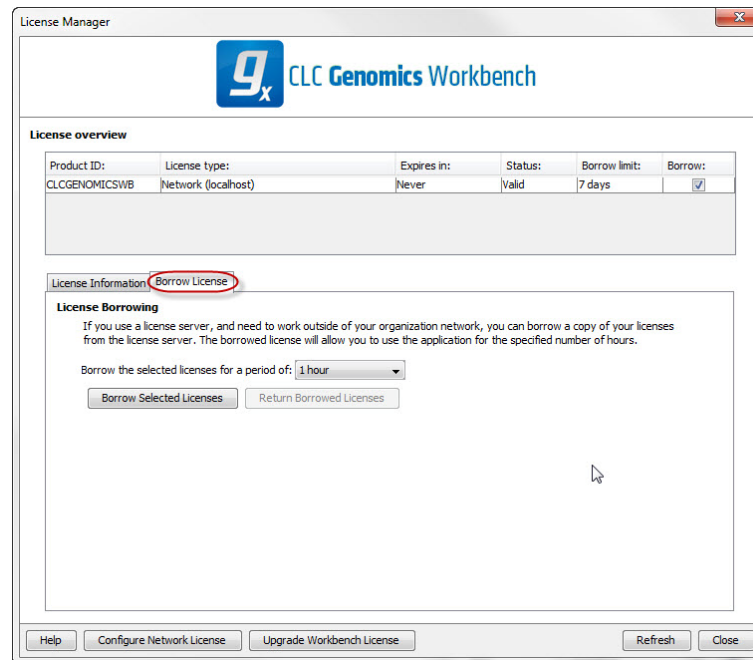

Figure 2.16: Borrow a license.
2. Click on the "Borrow License" tab to display the dialog shown in figure 2.16.